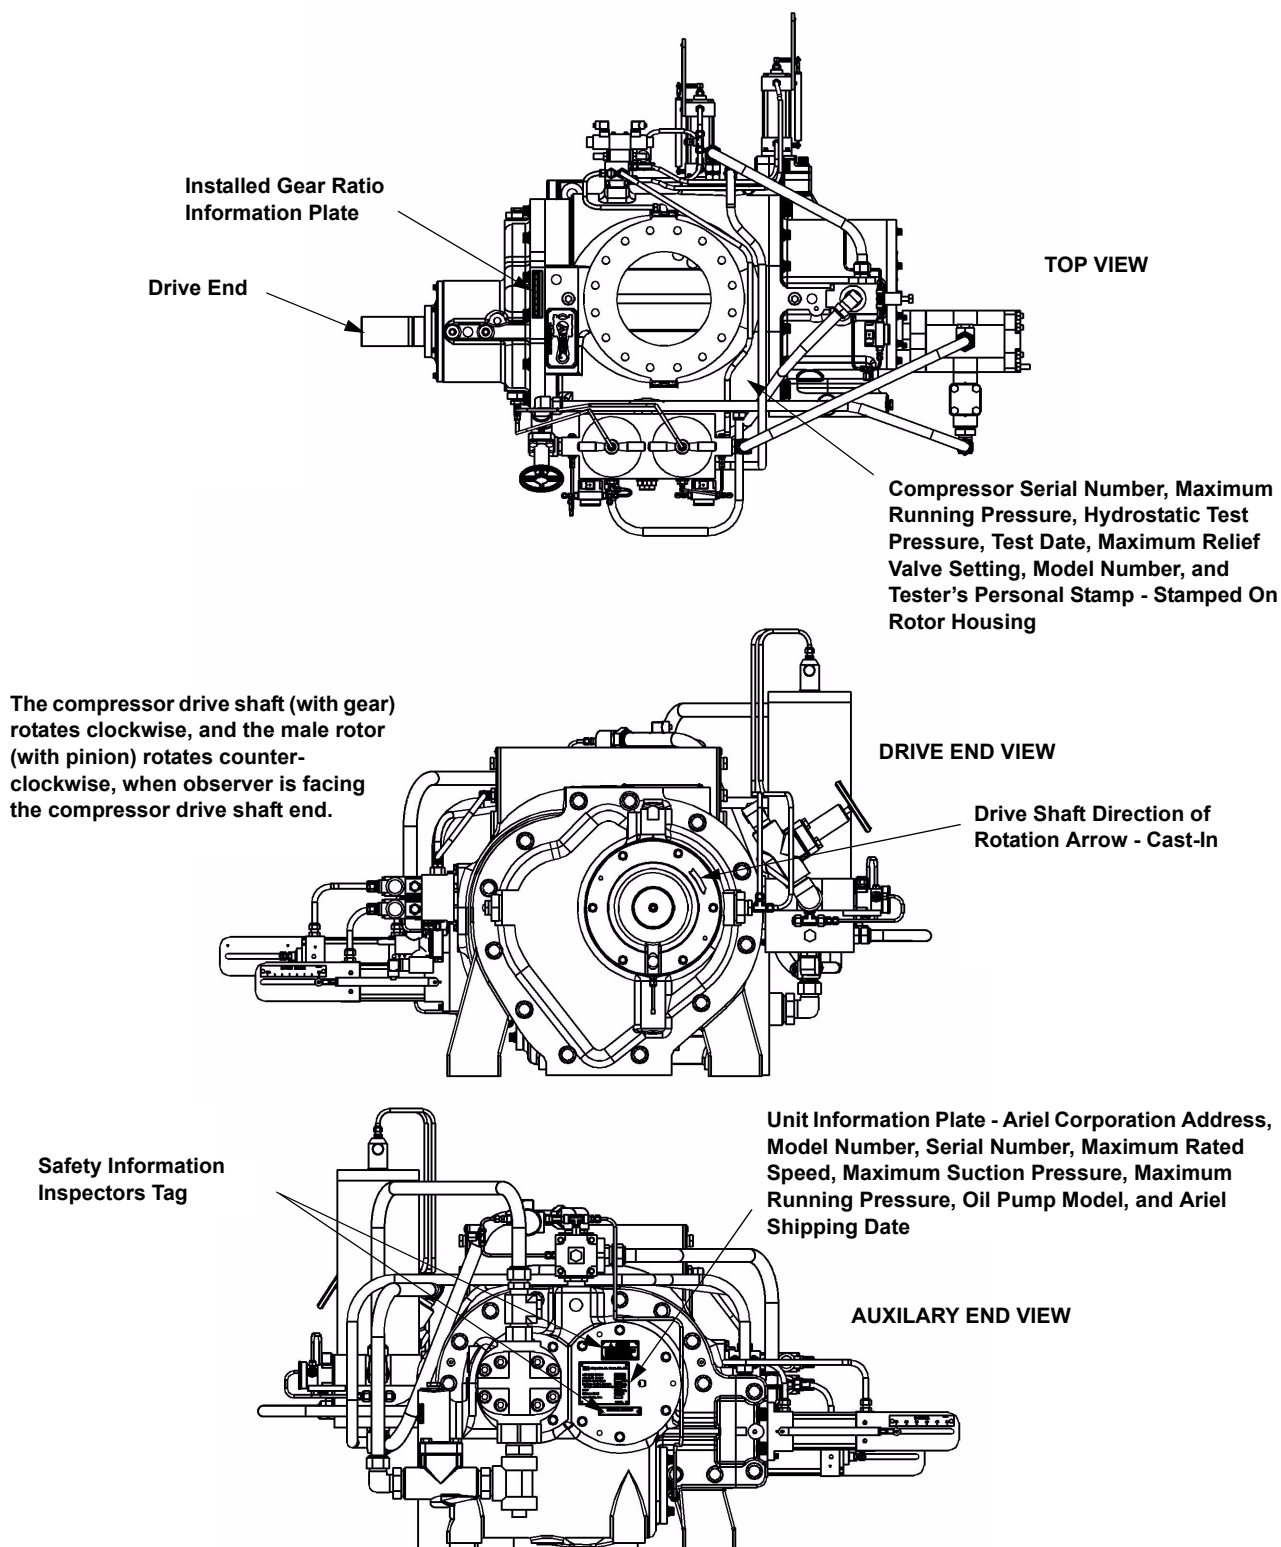

FIGURE 1-9 PRODUCT INFORMATION AND SAFETY - TYPICAL
NOTE: USE SERIAL NUMBERS IN ALL CORRESPONDENCE. REFERENCE FIGURE 1-9 ON PAGE 1-11.
1. Be sure that driver will rotate compressor rotor drive shaft in proper direction, prior to start-up. See Figure 1-9 on Page 1-11 drive end view for rotation arrow.